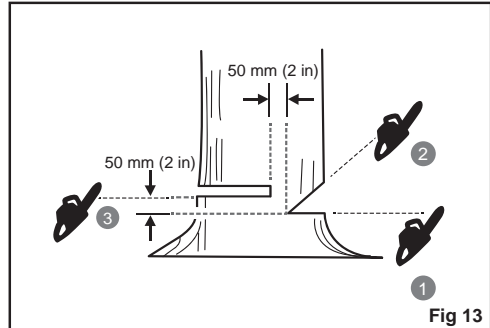

Fig 13
- **Notched Undercut.** Cut a notch about 1/3 the diameter of the tree, perpendicular to the direction of fall. Make the cuts of the notch so they intersect at a right angle to the line of fall. This notch should be cleaned out to leave a straight line. To keep the weight of the wood off the saw, always make the lower cut of the notch before the upper cut. See Fig. 13.